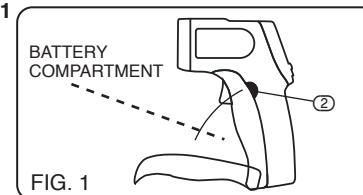

FIG. 1
8.1 BATTERY INSTALLATION - FIG. 1
- Open battery cover, pull out cover using finger indents ②.